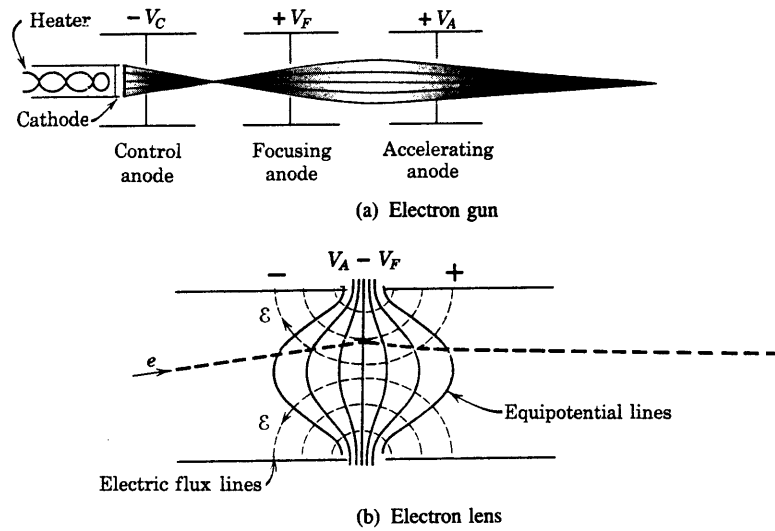

Figure 4.6 An elementary electron gun with electric-field focusing.
6. What is the effect on a TV picture of varying the voltage on the control anode (Fig. 4.6)? On the accelerating anode?